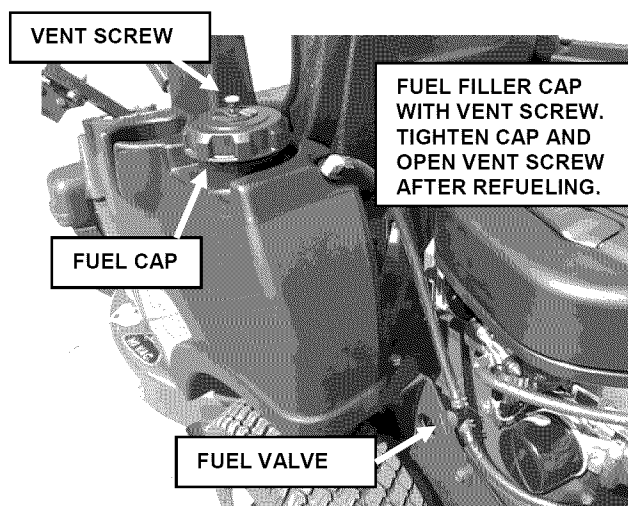

FIGURE 2.2
**2.1.6.** Add fuel to tank with machine out of doors where fumes can safely dissipate. Refer to engine owner's manual for fuel specifications. Make sure fuel filler cap is tight after filling tank. Open vent screw on fuel cap by turning counterclockwise. Also open fuel valve, located in fuel line. See Figure 2.2.
4. Make sure vent screw on fuel cap and fuel valve in fuel line are both open. See Figure 2.2.